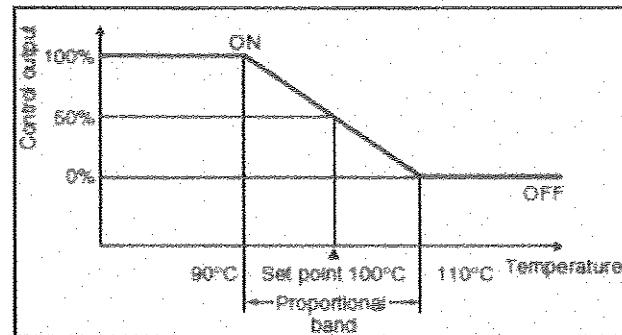

Figure A1(b) / Rajah A1(b)
- CLO2 C3 (b) Figure A1(b) shows the action of proportional mode controller. Based on the figure, interpret the characteristics of Proportional Mode Controller.